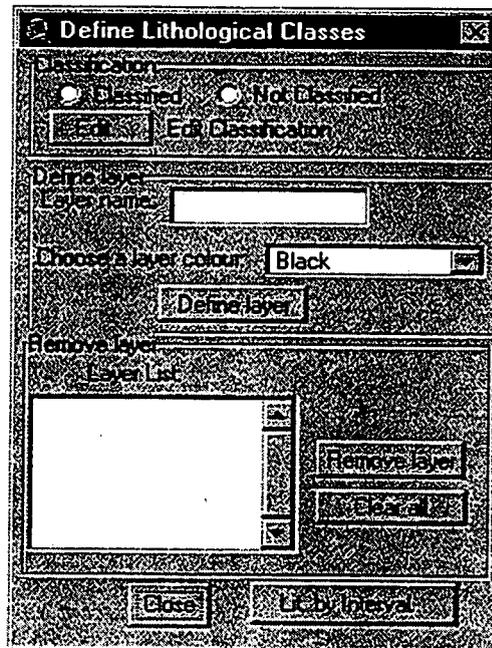

Figure 16 Define Lithological Classes Dialog.
When selecting the “Depth Interval” option, a new view “Horizontal-slice” is created, and the “Define Lithological Classes” dialog box is opened, see Figure 16. Here the user can choose to classify the lithology in up to five groups or define layers. If the user classifies the lithology in groups these groups will act as layers, otherwise a number of layers has to be defined. Each of the defined layers will represent one zonation.
- Press the **Close** button to close this dialog box and return to the **Define Lithology Classes** dialog box, see Figure 16.
Close: Return to the **Define Lithological Classes** dialog box, see Figure 16.